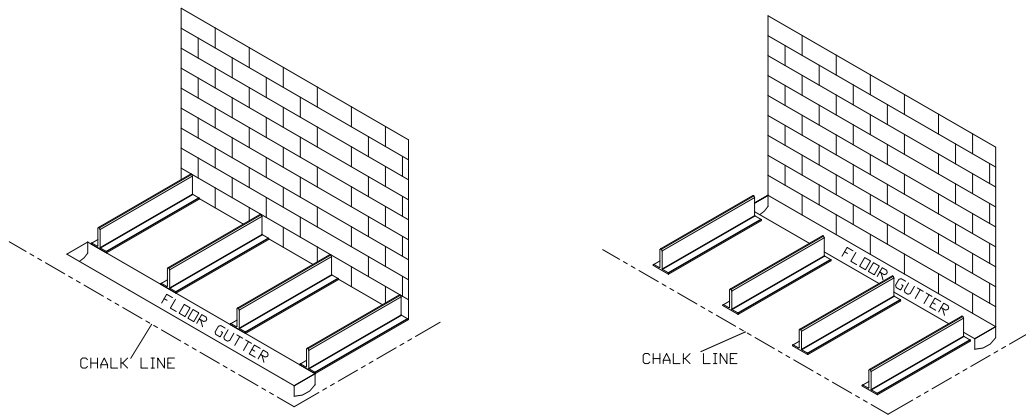

Figure 6
shown in Figure 6. **Important:** Make sure that the two lines are perpendicular and in the exact final location desired for the corner of your kennel.
4. Layout the "Sanislope T" sections approximately where they will lie on the final floor plan as shown in Figure 6. **Note: be sure that the end blocker that was installed in step 2 is at the outside or gate end of the run. Optional:** This system is designed to function equally well whether it is fastened to the floor or not. If you do not want to fasten it the floor skip to step 6; otherwise proceed with step 5.